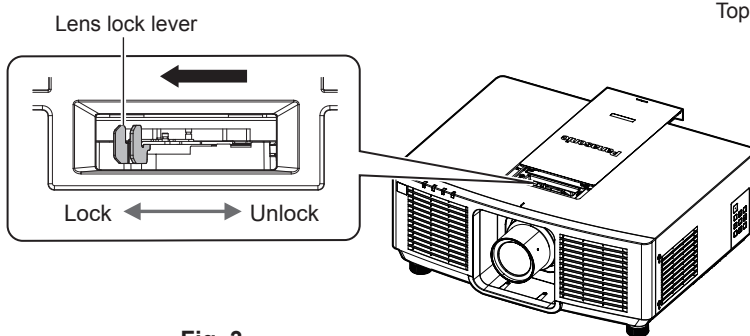

Fig. 3
- If the lens lock lever is at the LOCK side (Fig. 3), pinch the lens lock lever and turn to the UNLOCK side. (Fig. 2)
- 4) **While holding the projection lens, turn the lock lever fully to the LOCK side. (Fig. 3)**